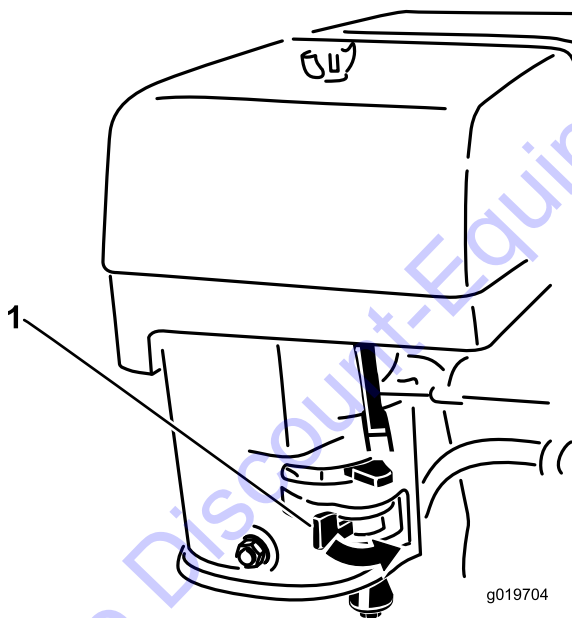

Figure 13
2. Move the fuel valve to the ON position (Figure 13).